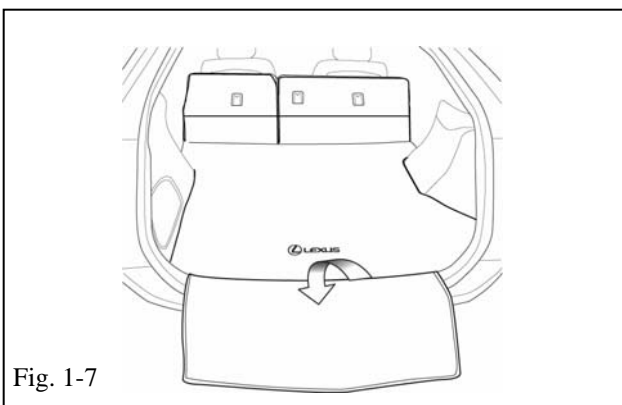

Fig. 1-7
- || (h) When loading and unloading the vehicle cargo area you can unfold the Bumper Cover and place it over the bumper to protect your vehicle. (Fig 1-7)